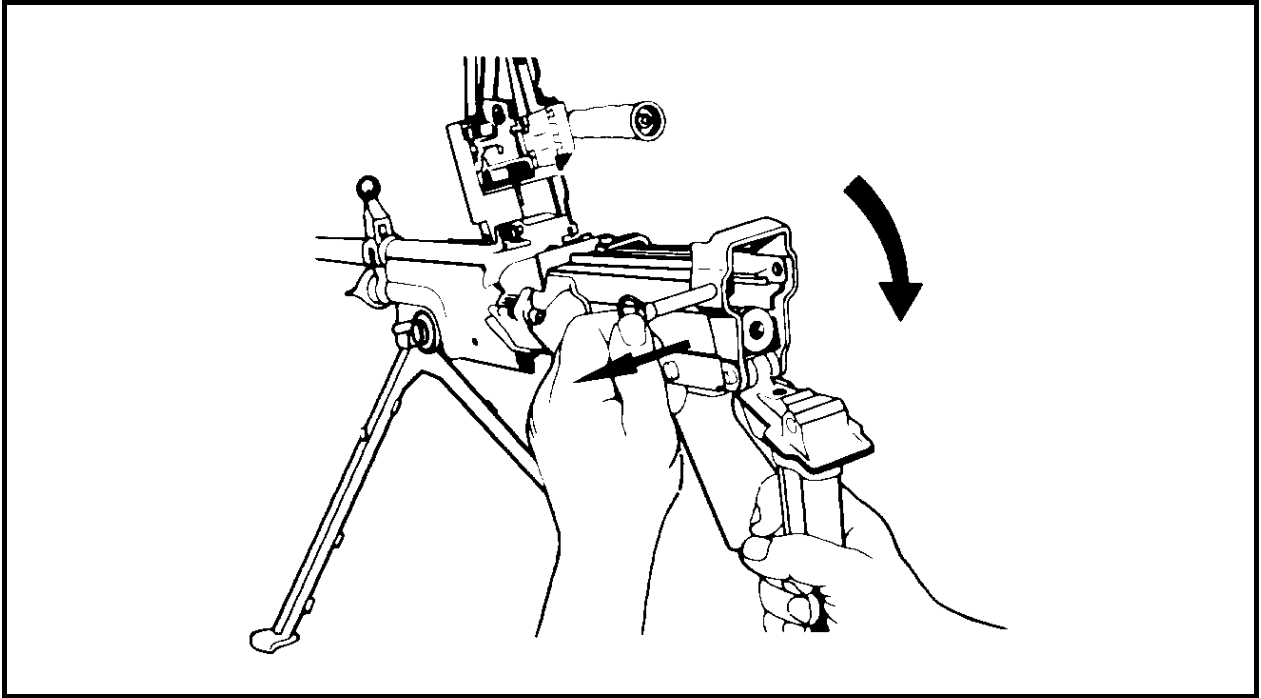

Figure 2-10 Butt Pivot
- (1) Carry out safety precautions. Pull the upper retaining pin to the left, and pivot the butt down under control (see Figure 2-10).